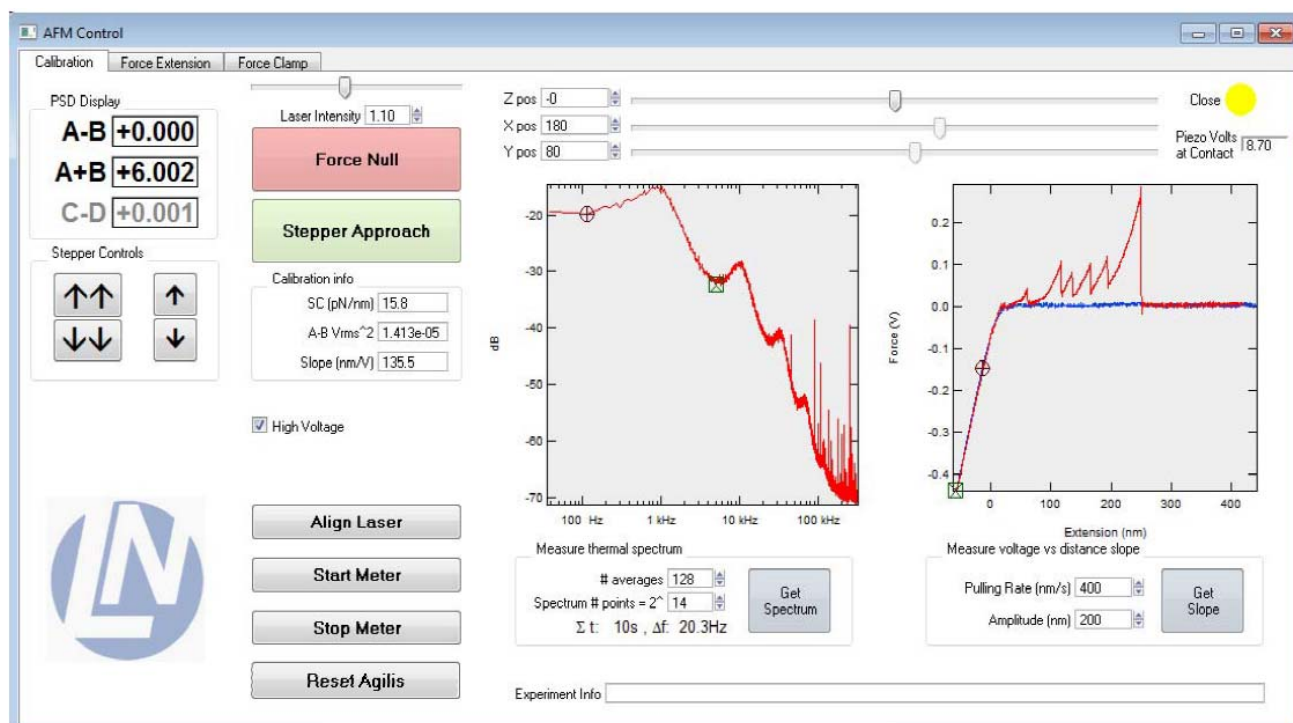

Figure 5: Main calibration panel. It has three tabs, used for calibration, force extension and force clamp, respectively.
Now it is time to go to IGOR. Open it and select AFM tab → initialize options experiment to show a main calibration panel (Figure 5). This main panel is used to calibrate and control the AFM.
- Use the double downward arrow button in the “Stepper Controls” box (Figure 5) to approximate the piezoelectric surface to the O-ring until they touch.
- Press “force Null” button (Figure 5)
- Generate a Power Spectrum by setting the “Measure thermal Spectrum” parameters (Figure 5 and Figure shown below) and by then pressing the “Get Spectrum” button. This should be done at several microns from the sample surface (i.e. before approaching the surface to the cantilever). Use # of averages = 32 and spectrum # points = 2¹⁸.
- After acquiring a spectrum, place the circular cursor to the right and the square cursor to the left of the left main resonance peak as shown in the Figure 5.
- To carry out the second part of the calibration, press “Force null” again and then press “Stepper Approach” button to bring the sample surface into close proximity to the cantilever tip (Figure 5).
1. In the main calibration panel (Figure 5), set Amplitude in the “Measure voltage vs. distance slope” box to 500 nm and Pulling Rate (in the same box) to 400 nm/s and press “Get slope”.